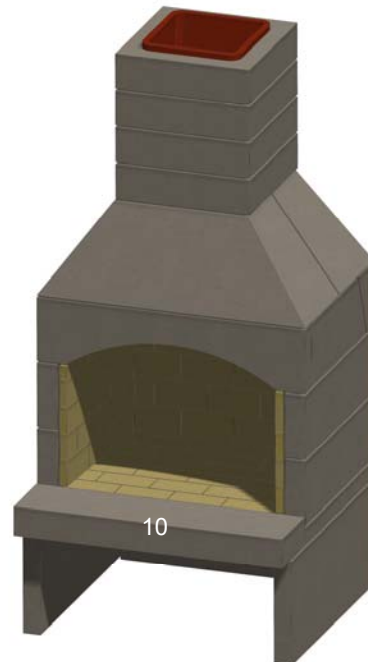

Figure 24. Hearth
P. Install the hearth piece (10) if using this component, and any hearth extension. See Figure 24.